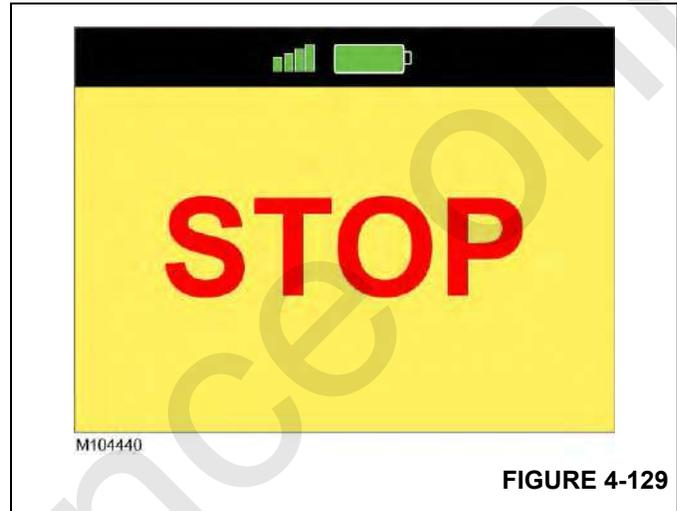

FIGURE 4-129
- The STOP (Figure 4-129) screen appears.